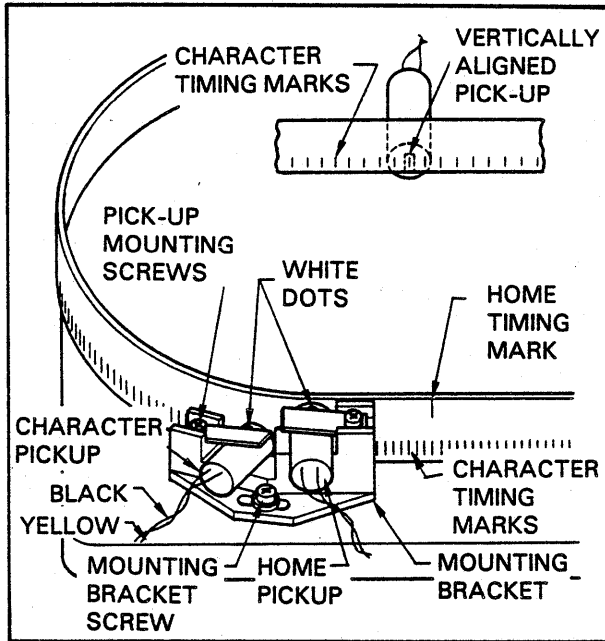

FIGURE 5-3. CHARACTER AND HOME PULSE ADJUSTMENTS
4. Pickup-to-band clearance is adjusted with the band installed and the high point of the pulley circumference adjacent to the pickup. The pulley high point is usually marked by a blue spot. Set the pickup clearance by loosening the single screw at the top of the mounting bracket which clamps the pickup in place. (See Figure 5-3). With the pickup pole piece vertical (white dot on top), position the pickup 0.005 (0.127mm) minimum from the band timing mark. Tighten the clamp screw.